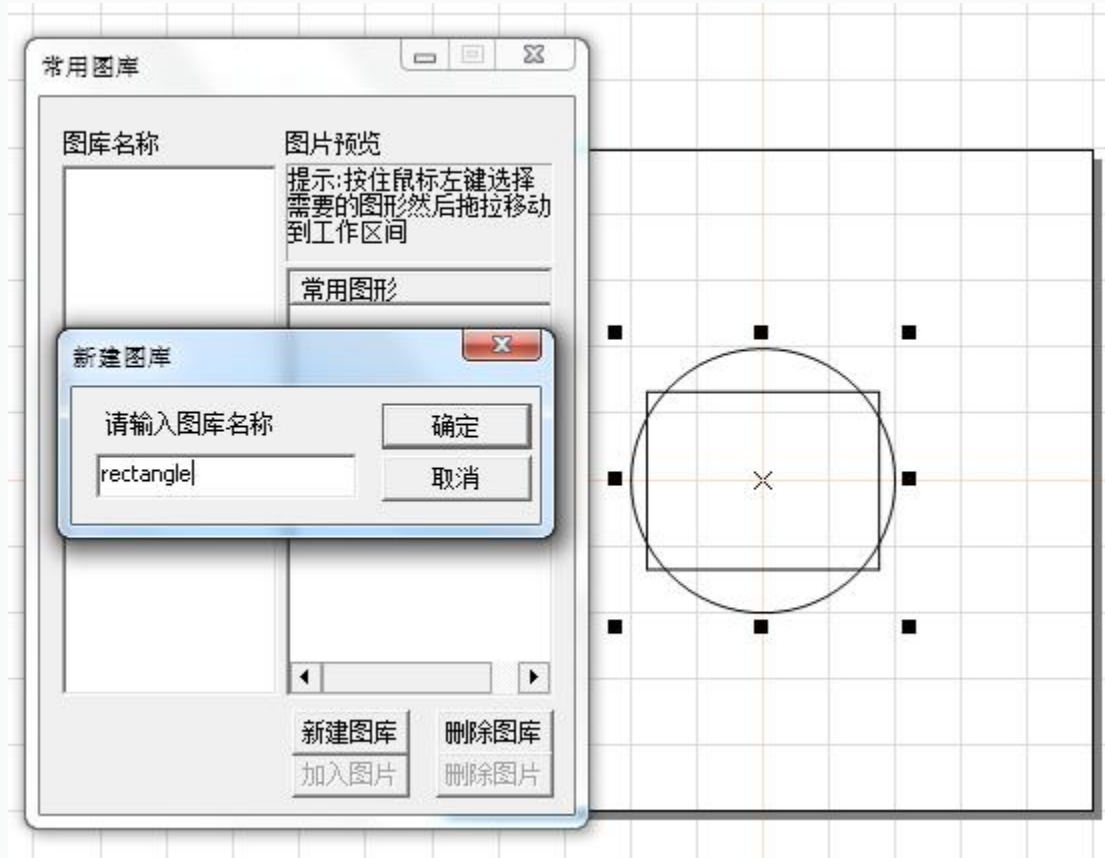

Fig.2-12 Images Library
- Infrequent use parameter editing enable: When this item is not checked, the infrequently used parameter items in the main interface-Marking parameter-advanced options are grayed out and cannot be edited, as shown in Figure 2-12. Check this item r to enable editing.